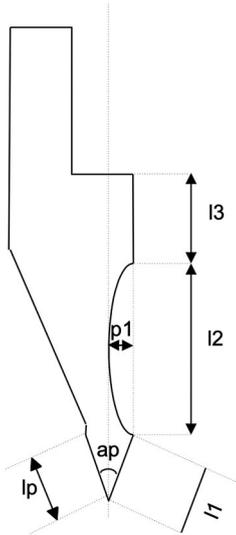

Figure 8. Punch drawing example
- Press **[ENTER]**: the next section will be drawn in automatic mode. The section to which the data refer will be marked, the cursor will move to Field 1 where the section length can be entered. The punch drawing will form by continuing to alternatively enter the lengths and angles. The more the entered measurements and angles correspond to reality, the more the drawing will be correct. Figure 8 Example of a punch to be drawn.